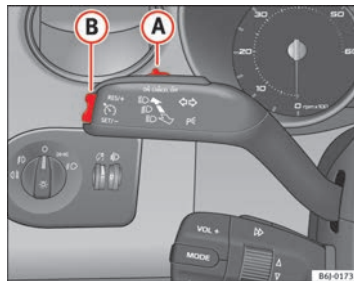

Fig. 122 Turn signal and main beam headlight lever: switch and rocker switch for the cruise control
- Press the upper part **RES** of the rocker switch ⇒ fig. 122 **B** to increase the speed. The vehicle will continue to accelerate as long as you keep the rocker switch pressed. When you release the switch, the new speed is stored.
Cruise control is switched off if you reduce speed by depressing the brake pedal. Reactivate the control by pressing once on the upper part of the rocker switch **RES+** → fig. 122 **(B)**.